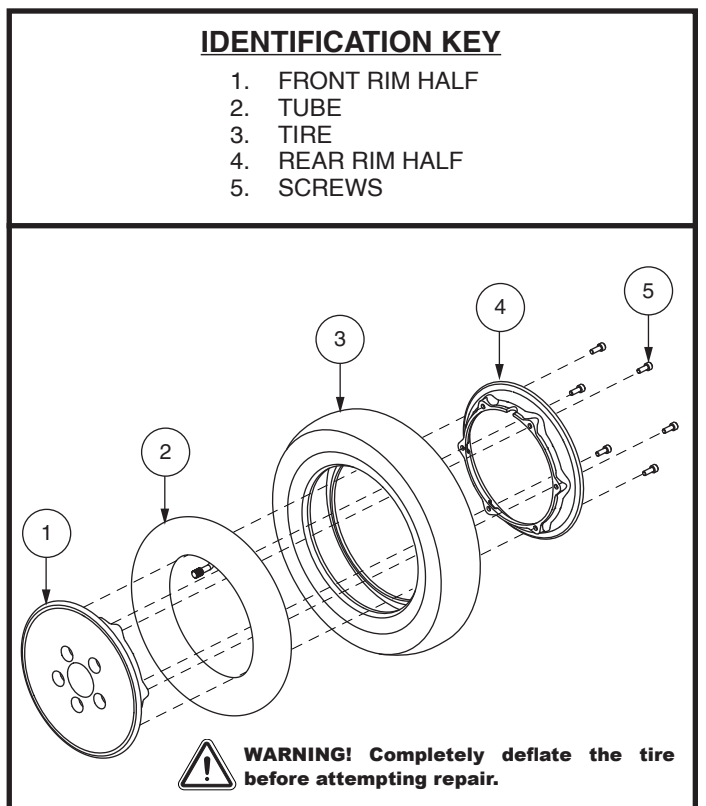

Figure 29. Pneumatic Drive Wheel Disassembly/Assembly
6. Remove the screws and separate the rim halves. **See figure 29.**